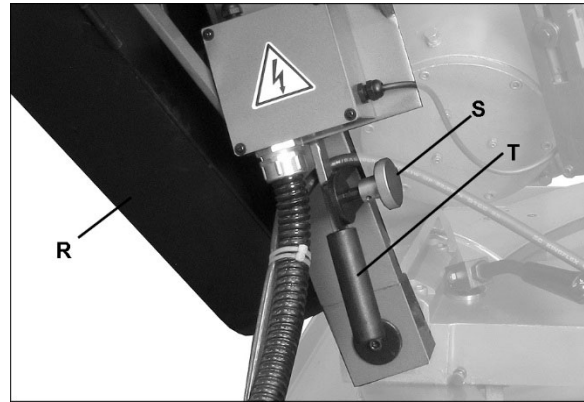

Figure 7-5: belt tensioning
Refer to Figure 7-5.
- Open pulley cover (R , Figure 7-5).
- Loosen knob (S) and lift handle upward (T) to tension belt.
- Retighten knob (S).